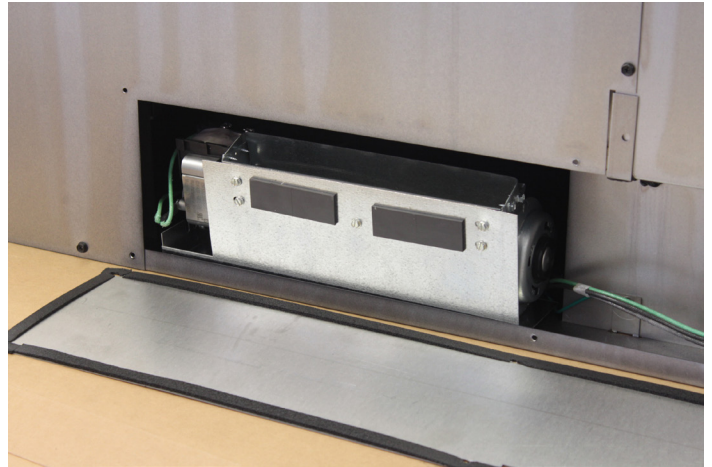

Figure 6
8. Next, install the right hand blower assembly towards the right side of the access opening. The right hand edge of the blower base bracket should be about even with the right edge of the access opening. Route wiring away from the blower wheel. **See Figure 6.**